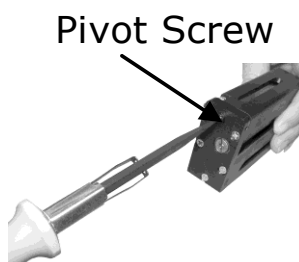

Figure 19a. Loosening Outer Pivot Screw
3. Loosen the outer pivot screw by making one complete turn (see Fig. 19a).